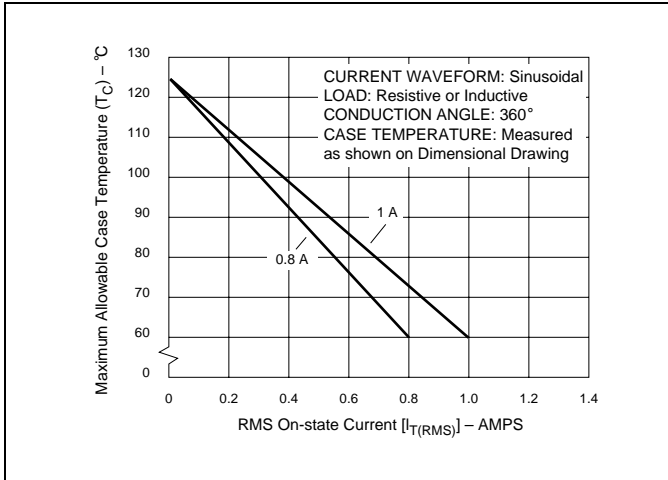
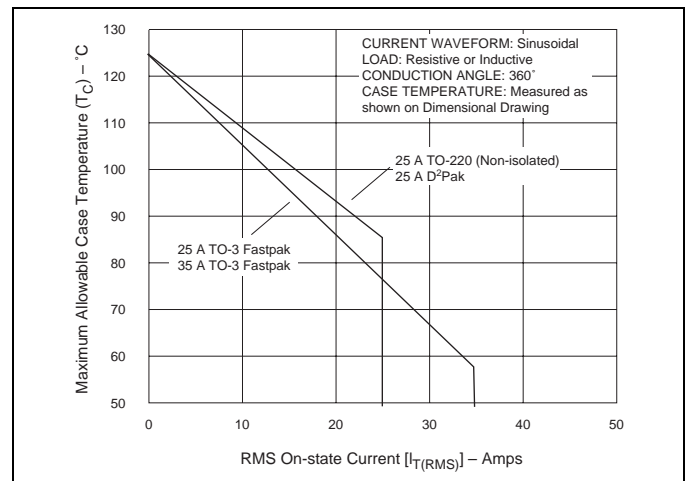
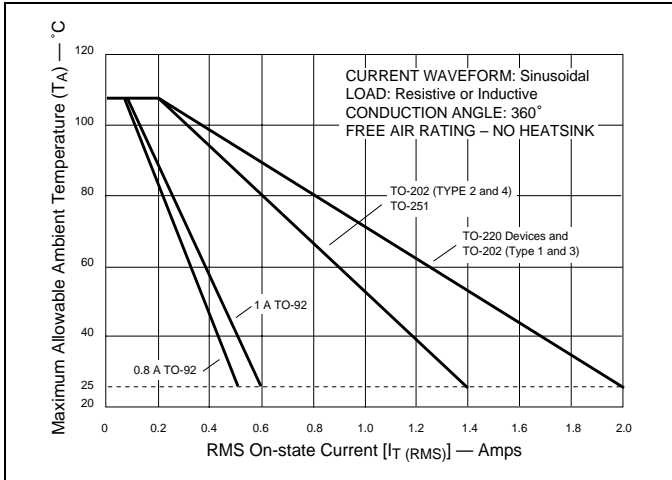
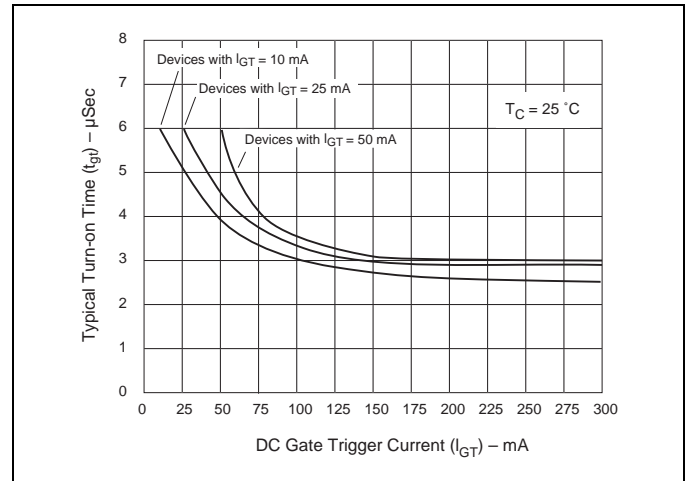

Figure E2.1 Maximum Allowable Case Temperature versus On-state Current (0.8 A and 1 A)
Figure E2.6 Maximum Allowable Case Temperature versus On-state Current (25 A and 35 A)
Figure E2.7 Maximum Allowable Ambient Temperature versus On-state Current
Figure E2.15 Turn-on Time versus Gate Trigger Current (Typical)
- (1) For either polarity of MT2 with reference to MT1 terminal
- (2) For either polarity of gate voltage (VGT) with reference to MT1 terminal
- (3) See Gate Characteristics and Definition of Quadrants.
- (4) See Figure E2.1 through Figure E2.7 for current rating at specific operating temperature.
- (10) See Figure E2.15 for tgt versus IGT.
- (11) See package outlines for lead form configurations. When ordering special lead forming, add type number as suffix to part number.
- (12) Initial on-state current = 200 mA dc for 0.8 A to 10 A devices, 400 mA dc for 15 A to 35 A devices
- (13) See Figure E2.1 through Figure E2.6 for maximum allowable case temperature at maximum rated current.
- (14) Pulse width ≤10 μs; IGT ≤ IGTM
- (15) RL = 60 Ω for 0.8 A to 10 A triacs; RL = 30 Ω for 15 A to 35 A triacs
- (16) TC = TJ for test conditions in off state
- (17) IGT = 300 mA for 25 A and 35 A devices
- (18) Quadrants I, II, III only
- (19) Minimum non-trigger VGT at 125 °C is 0.2 V for all except 50 mA MAX QIV devices which are 0.2 V at 110 °C.